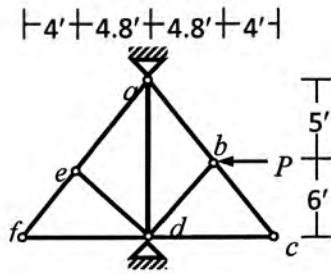

Fig.1
1. Fig.1 shows a plane truss *abcdef* whose joint *b* moves leftward 1 inch and 0.5 inch downward due to the applied force *P*. Calculate (i) Axial force in all members, (ii) Applied force *P* [Given: $S_x = \text{constant} = 10^3 \text{ k/ft}$].